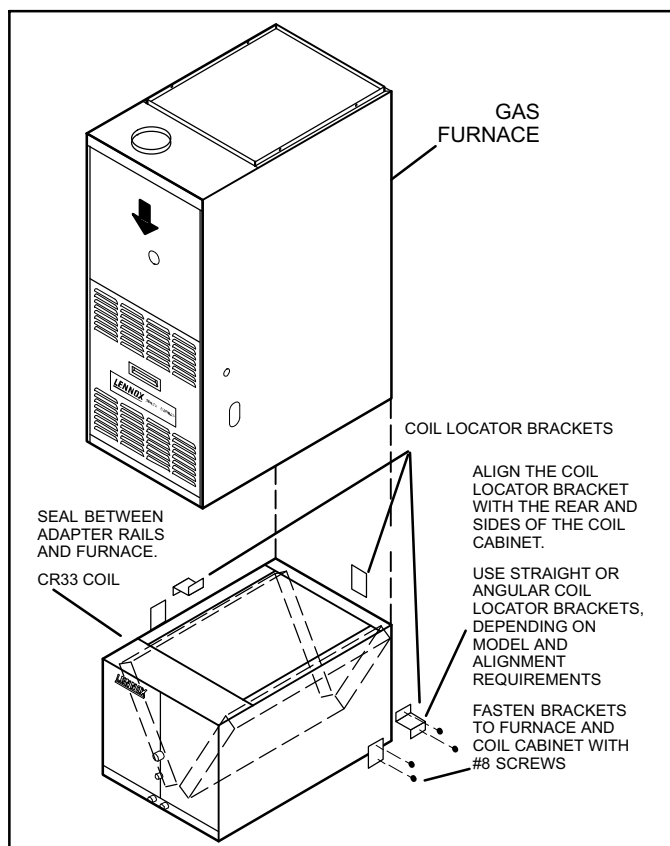

Figure 1. Gas Furnace and Coil
2. **Coil Cabinet Width**—Install the provided coil locator brackets on the coil. Align the coil locator brackets with the rear and sides of the coil cabinet. Figure 1 illustrates how the furnace, coil and coil locator brackets fit together.